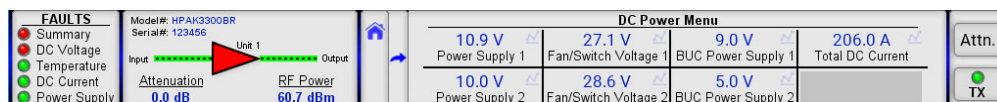

Figure 22: Fault Panel > DC Power Menu
The user should check the voltages displayed on the Status > DC Power menu. See Figure 22. If the voltages are outside of the normal output ranges as described in the DC Power Menu description of the **Touchscreen Menu Structure** section, consult the factory.
Check the Total DC Current reading on the **Status > DC Power** menu. See Figure 22. If the amplifier is in the mute state, Total DC Current drops within a range of 0 to 5 A.
2. Check the power supply readings on the Status > DC Power menu. See Figure 22. Observe any fluctuations and record the level.